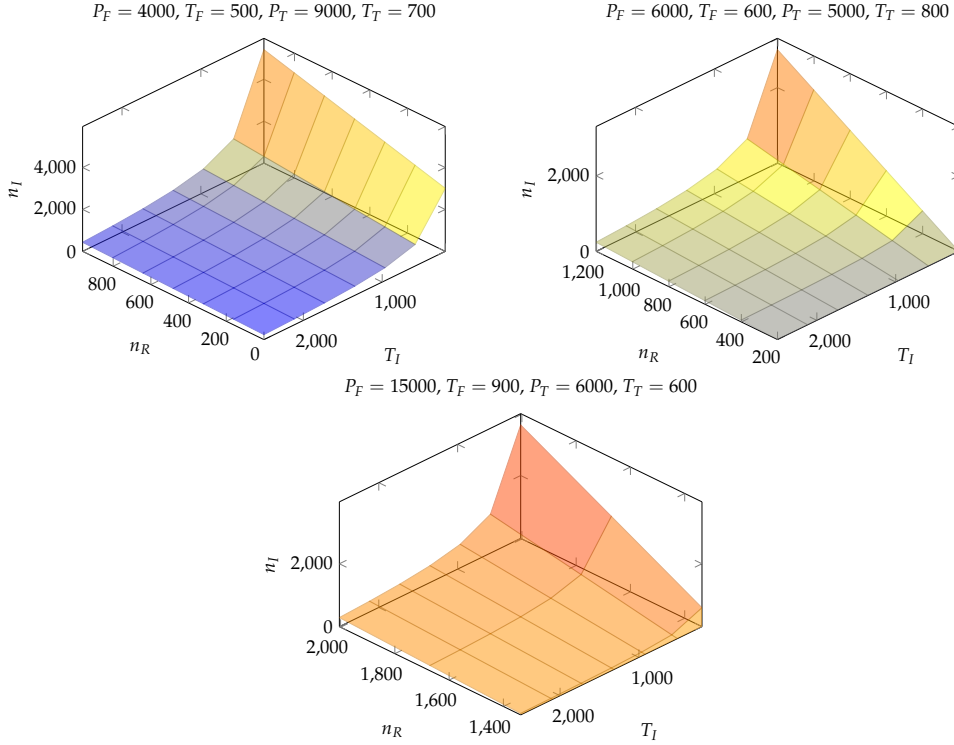

Figure 4: The surface defined by  $(n_R, T_I, f)$  for various initial conditions.
We can plot this function  $f$ , being of two variables  $n_R$  and  $T_I$ , in three dimensions using the bounds on  $T_I$  and  $n_R$ : that  $T_C \leq T_I \leq T_H$  and  $0 \leq n_R \leq n_F$ . fig. 4 visualizes this bounded surface for a few different initial conditions (and in these examples I chose  $T_C = 200$  and  $T_H = 2500$ ).
Consider the surface we previously defined by  $(n_R, T_I, f)$  (fig. 4). We have to pick both  $n_R$  and  $T_I$  together, a *pair* of points, from a mesh of points (the Cartesian product of the  $n_R$  and  $T_I$  domains). However, now we have an expression  $h(n_R) = T_I$  that is dependent on only this only variable  $n_R$ . What we have then is that we can solve for  $T_I$  in terms of  $n_R$  (eq. (17),  $T_I = h(n_R)$ ), and then can solve for  $n_I$  in terms of  $n_R$  and  $T_I = h(n_R)$  (eq. (15),  $n_I = f(n_R, g(n_R))$ ).